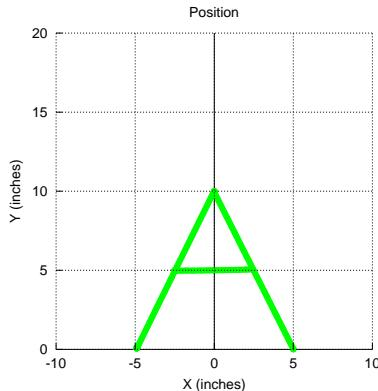

Figure 10.19: A plot generated by the program `recordx3.ch`.
1. Based on the program `traceon3.ch` developed in Exercise 1 on page 172, write a program `recordx3.ch` to record and plot the traced trajectory with the letter 'A' as shown in Figure 10.19.